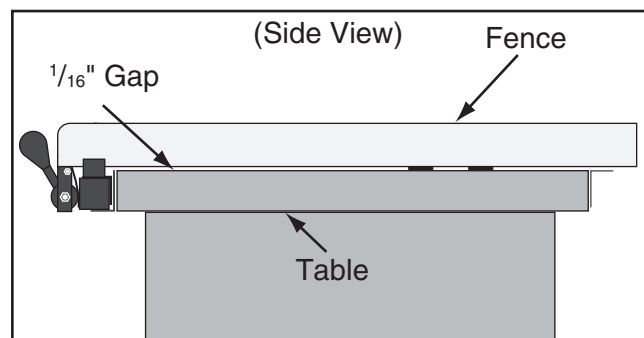

Figure 119. Gap between fence and table approximately $\frac{1}{16}$ " from to back.
- If the gap is approximately $\frac{1}{16}$ " and even from the front of the table to the back (see **Figure 119**), then no additional adjustments are necessary. Proceed to **Clamping Pressure and Parallelism**.
4. Loosen the rail mounting bolts and adjust the rails as needed until the fence rides smoothly, the gap is approximately $\frac{1}{16}$ ", and is even from front to back (see **Figure 119**).
- If the fence drags across the table, then loosen the rail mounting bolts and adjust the rails just enough so the gap between the fence and the table is even from front to back (see **Figure 119** on **Page 66**). Tighten the rail mounting bolts.